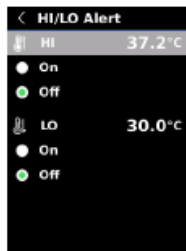

Fig. 17
2. Use the \wedge and \vee buttons to select the alarm value to be adjusted or to Enable (On) or Disable (Off) the applicable temperature alerts (Fig. 17).